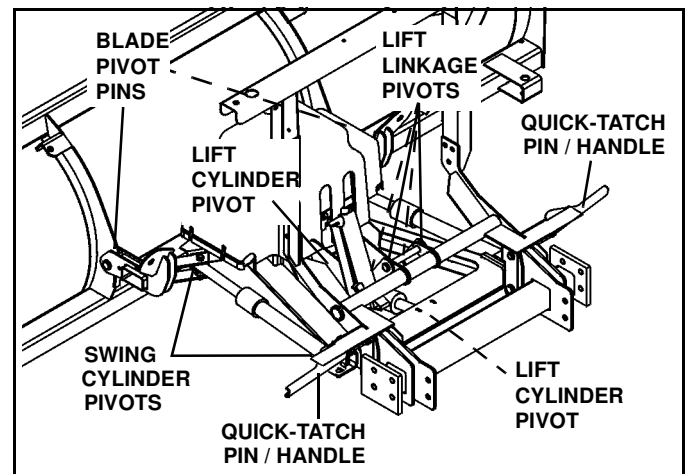

Figure 2-1
3. Apply a small amount of light oil to: Quick-tatch pin and handle assemblies, pivot pins between the blade and swing frame, and pivot pins at lift and swing cylinders. Also lubricate jackstand pins. (See Figure 2-1).